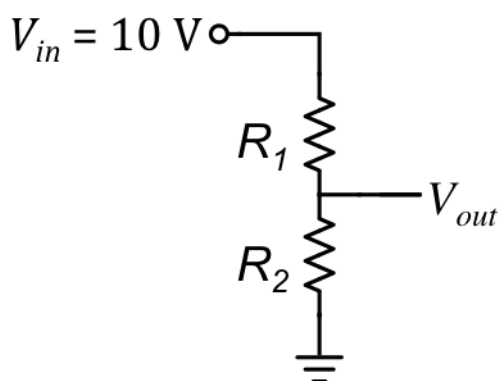

Figure 2 - Voltage divider circuit.
In this portion of the lab, you will construct the circuit shown in Figure 2 using a solderless breadboard. You will then measure  $V_{out}$  as a function of the resistance  $R_2$ . Copy the circuit diagram and table into your lab notebook.
2. Sketch the circuit shown in Figure 2 in your lab notebook, and write down the voltage divider equation, Eq. (1), in your lab notebook.
6. Insert this resistor into breadboard as  $R_2$  to form the circuit shown in Figure 2. Use the breadboard's built-in power supply to provide  $V_{in} = 10$  V to the circuit. Make sure the other end of the circuit is properly connected to ground.
12. Make a plot of the *measured* output voltage  $V_{out}$  as a function of the *measured* resistance  $R_2$  with the theoretical curve given by Eq. (1). (Make the *theoretical* curve smooth by using 'linspace()' for the variable  $R_2$ , and the measured value for the constant  $R_1$ .)